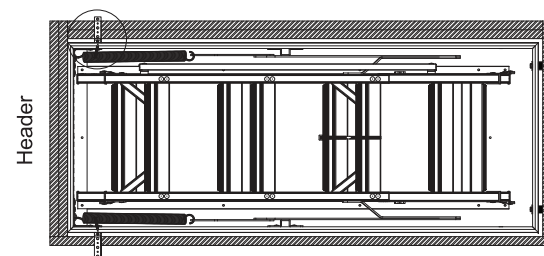

Figure 9 Securing the metal straps
L. Installer #2: Unfold the 14" metal straps and bend them over the adjoining ceiling joists. Screw them in place with the wood screws (1/4" x 1-1/2) passing through the 1/4" diameter hole in the metal strap and into the wood joist. See Figures 9 and 9.1. Be sure the straps are taught to support the weight of the attic ladder. DO NOT lift the attic ladder off the temporary support boards.